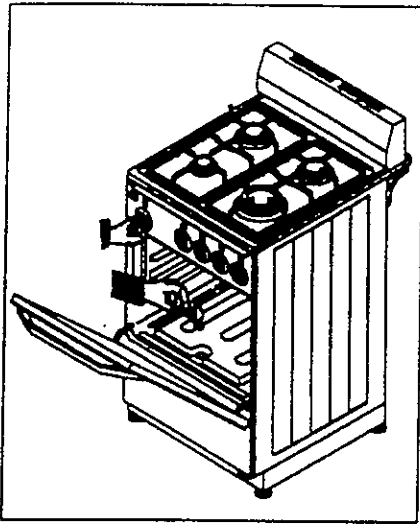

Figure 5
You should place a lighted match next to the entrance of the burner hole. Depress the oven burner knob and turn counter-clockwise. Keep the control knob depressed for 10 seconds after lighting. Check that the burner is lit (Figure 5). Use extreme caution when lighting burners in this manner.
- First, the surface burners must be installed correctly, as seen in Figure 5.